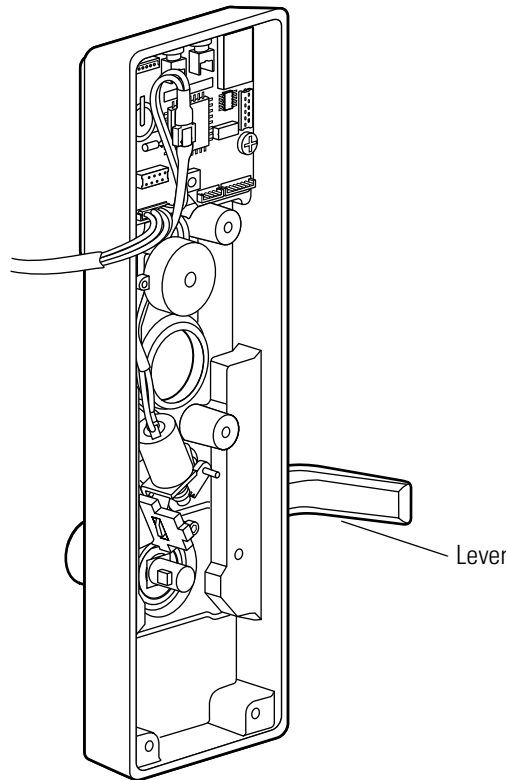

Figure 10.15 Removing and reinstalling the lever assembly
2. Remove the lever from the front of the escutcheon. See Figure 10.15.
2. Insert the lever through the escutcheon, positioning the lever so its handle will point toward the door hinges. See Figure 10.15.